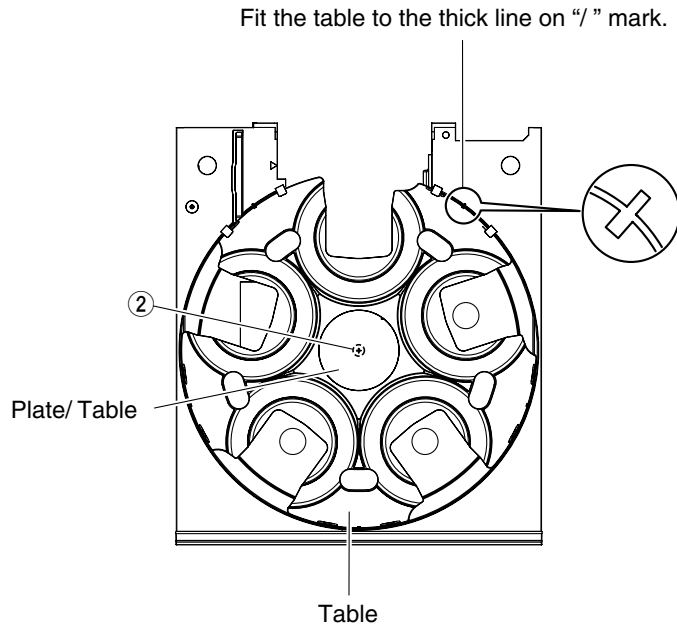

Fig. 6
- Remove the plate/table in Fig.6.
- Remove 1 screw (2) and then take off the table in Fig.6.
- Install the table by aligning it to the thick line on "/" mark. (Fig.6)